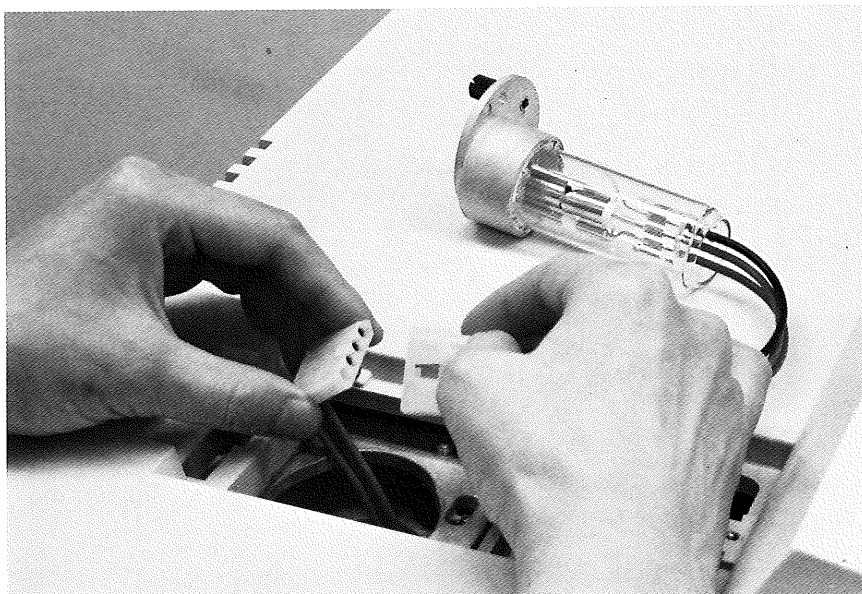

Figure 8-4.
5. Unplug the UV source connector. Plug in the new source. See Figure 8-4.